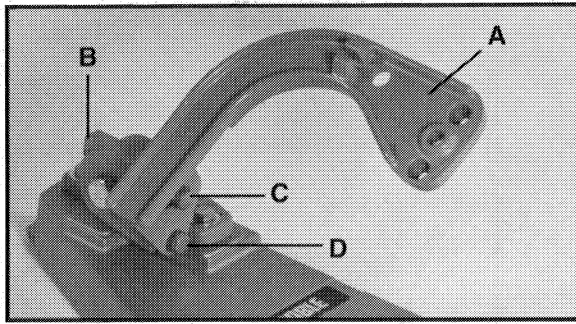

Fig. 3
3. Assemble arm (A) Fig. 3, to hinge assembly (B) using the two $\frac{3}{8}$ "-16 x 1 $\frac{1}{2}$ " long bolts and $\frac{3}{8}$ " I.D. x $\frac{3}{4}$ " O.D. washers (C) and (D). Rotate arm (A) so that the top elongated slot is centered with the top bolt (C) and tighten bolts firmly.